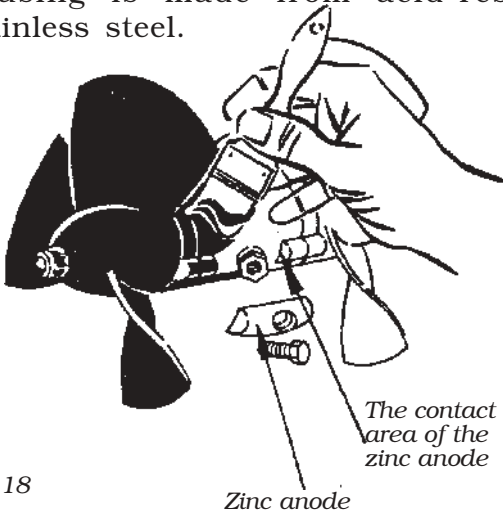

Fig.18
1. Prime the gear house the same way as the tunnel interior. **NB!** Do not prime the zinc anode or its contact area. Refer fig. 18. **BP300/450** does not have a zinc anode. The housing is made from acid-resistant stainless steel.
3. Before the propeller is fitted it should be ground and cleaned with acetone and then painted as in fig. 18